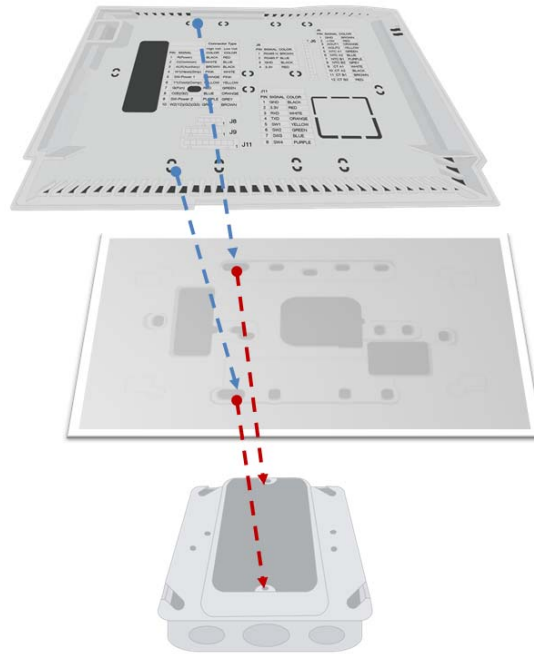

Figure 5: Back Plate on Adapter Plate
12. Place thermostat backplate against the JBOX adapter plate. The adapter plate and backplate holes should align if both are correctly oriented. See Figure 5.